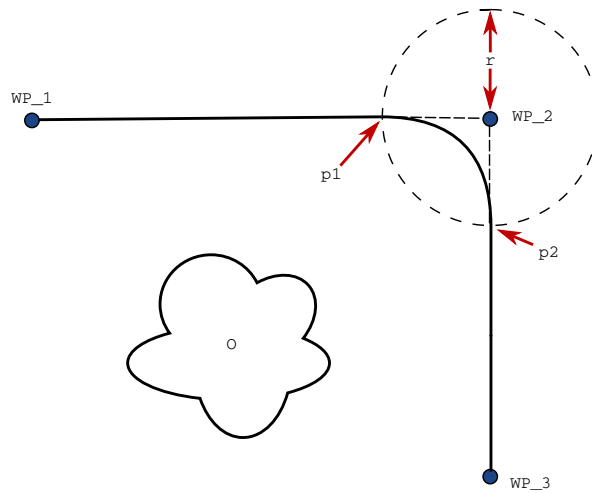

Figure 14.3: Blend over WP\_2 with radius  $r$ , initial blend position at p1 and final blend position at p2. O is an obstacle.
**Blend parameters** Apart from the waypoints, multiple parameters will influence the blend trajectory (see figure 14.3):